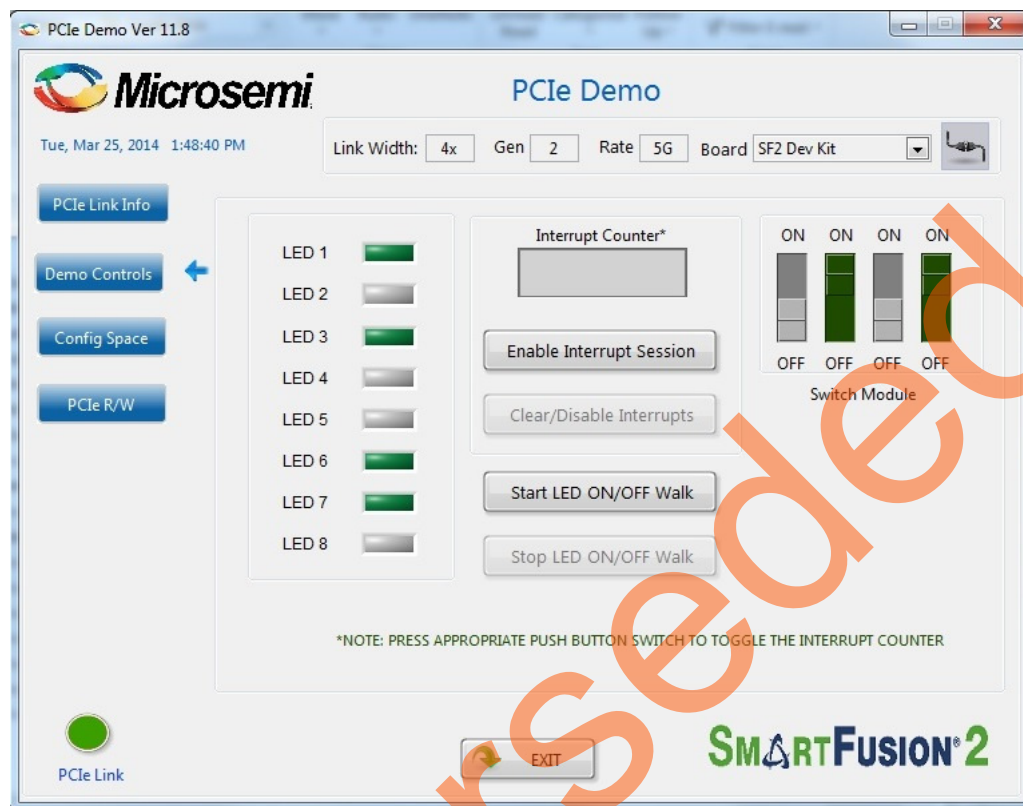

Figure 70 • Demo Controls
- Clicking **Demo Controls** in the GUI displays the LEDs options and DIP switch positions as shown in Figure 70.